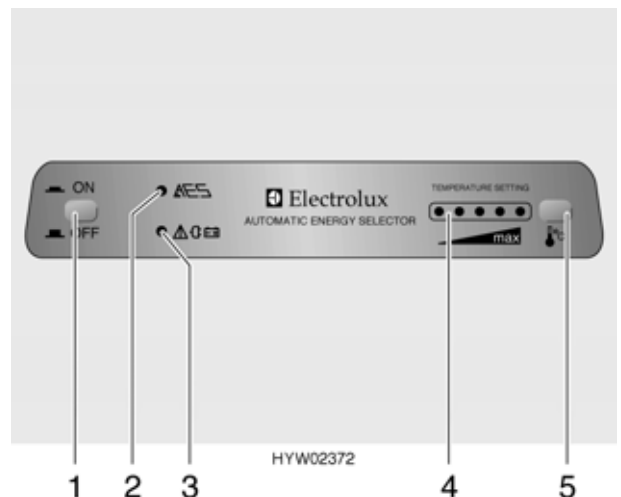

Fig. 133 Operating controls for refrigerator
If the 240 V supply is disconnected and the vehicle's engine is not running the "AES" selects the gas supply. When selecting gas operation the ignition fuse is opened automatically so gas can get into the burner. At the same time the electronic ignition is activated. If the gas flame is extinguished, e. g. by blast of wind, the ignition is activated immediately and re-ignites the gas. When the gas operation is faulty, the indicator lamp (Fig. 133,2) flashes red.
- Open flames are prohibited at petrol stations. If the stop takes longer than 15 minutes, the refrigerator has to be turned off at the button (Fig. 133,1).
During electric operation the "AES" constantly checks the voltage of the power supply. If the voltage is too low over a longer period of time, the "AES" automatically switches over to gas operation. The indicator lamp (Fig. 133,3) comes on. The "AES" remains in this type of operation until the voltage is back to normal.
When turned on the first time the refrigerator automatically selects the middle thermostat position. This position can be adjusted manually by using the button (Fig. 133,5). The LEDs (Fig. 133,4) show the selected thermostat position. The refrigerating temperature for the three types of energy is set with the button. It takes a few hours till the refrigerator reaches its normal operating temperature. When changing over the operation mode the thermostat setting will be maintained. The refrigerating temperature is retained regardless of the type of power being used.
- Press push button (Fig. 133,1). Green indicator lamp (Fig. 133,2) comes on.
- Adjust refrigerating temperature with the button (Fig. 133,5). The LEDs (Fig. 133,4) show the selected thermostat position.
When the gas operation is faulty, the indicator lamp (Fig. 133,2) flashes red.
- Press push button (Fig. 133,1). Indicator lamp (Fig. 133,2) is no longer illuminated.